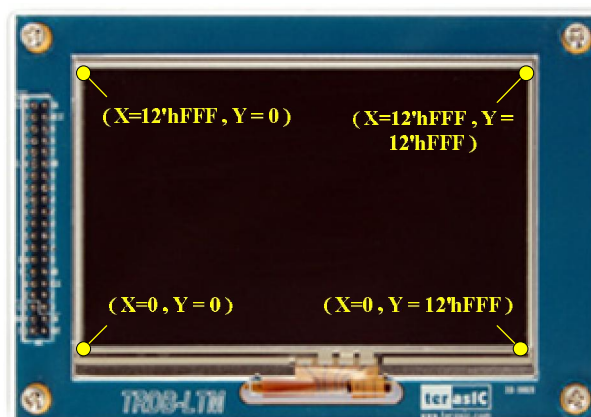

Figure 4.8. The x and y coordinates of the corners on the LTM touch screen
4. When users touch the LTM screen, the 7-segment displays "HEX6~HEX4" and "HEX2~HEX0" on the DE2 board will display the X and Y coordinates (in Hexadecimal format) of the touch point respectively (DE2-115/DE2 board only). Figure 4.8 indicates that the x and y coordinates of the corners on the LTM touch screen